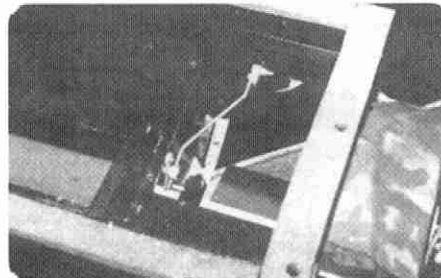

Figure 17
24. Make sure the auxiliary temperature is held in the closed position and install the connecting link rod with a slight preload tension on the actuator to make sure the door remains closed. Install retainer clip over the clip (Figure 17).